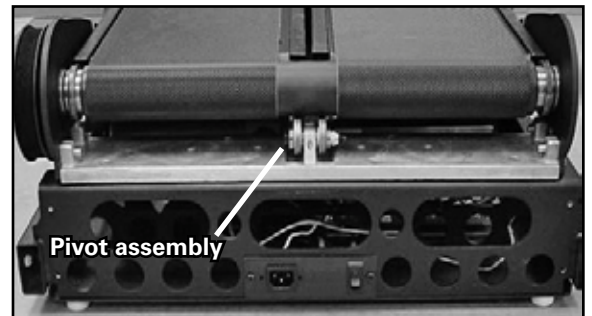

Figure 3
3. Inspect the Pivot Assembly on the the rear base (Figure 3) to see which bolt has a cracked bushing that must be replaced.